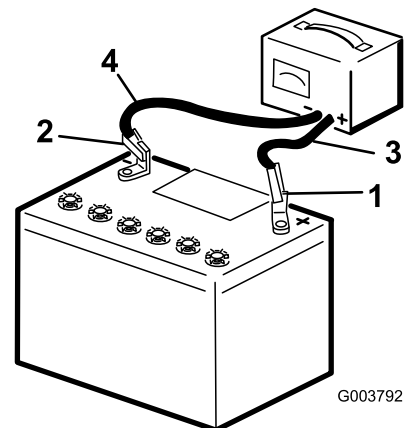

Figure 129
5. Connect the positive lead of the battery charger to the positive battery post (Figure 129).
6. Connect the negative lead of the battery charger to the negative battery post (Figure 129).
- When the battery is fully charged, unplug the charger from the electrical source, then disconnect the charger leads from the battery posts (Figure 129).